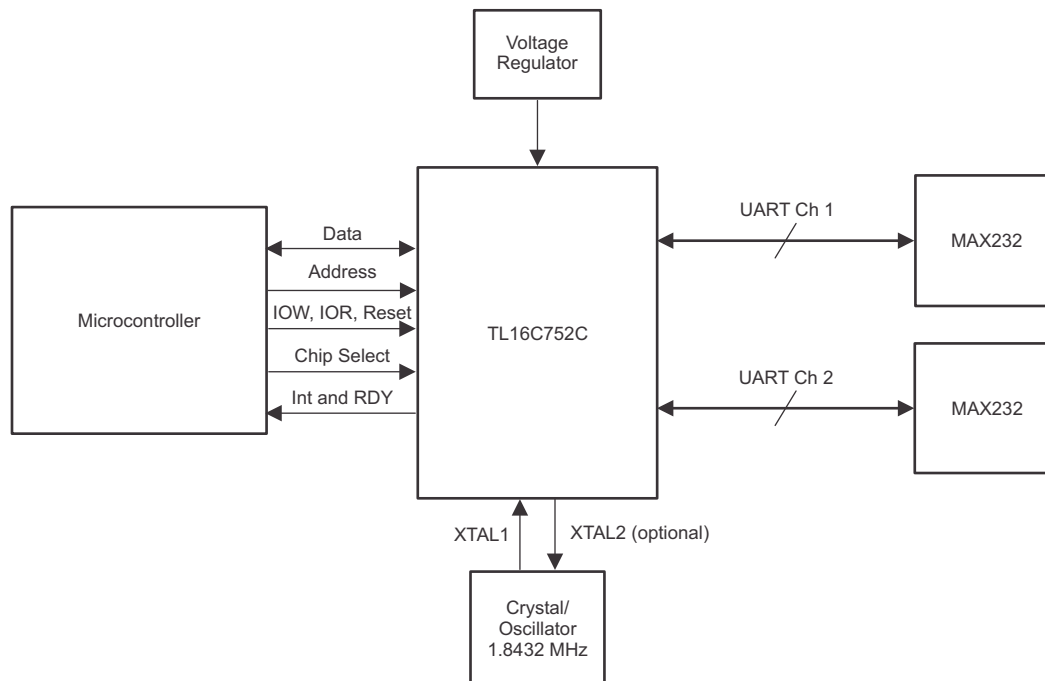

Figure 39. Typical Application Dual RS-232 Interface
1. Implement the schematic as is shown in Figure 39.
The designer can use Figure 39 as a guideline to configure each channel of the UART.